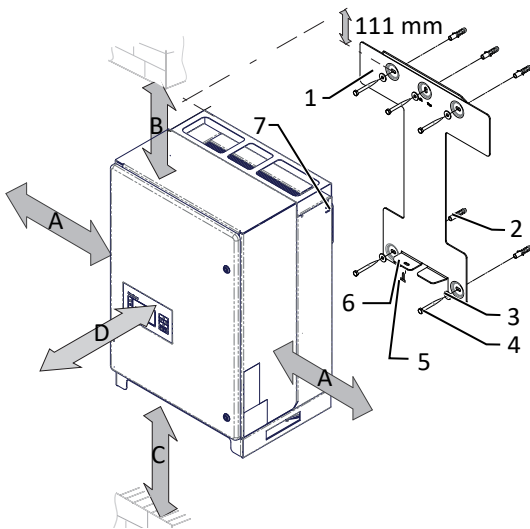

Fig. 13: Minimum clearances for wall mounting
3. Insert the screw provided into the lug of the mount and secure the device to prevent it from being lifted off [X T30 /  2 Nm]. ([See figure 13 [▶ Page 21]]).